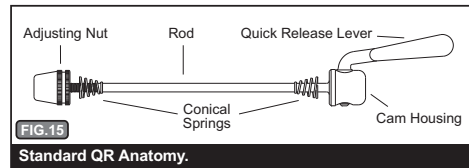

FIG. 15
**6. YAK & IBEX WHEEL INSTALLATION USING QR (FIG. 15):** *NOTE: Follow all instructions exactly. If you are unsure how to operate the quick release, please consult your bicycle dealer or contact BOB. Fig. 15 shows the anatomy of the quick release.*